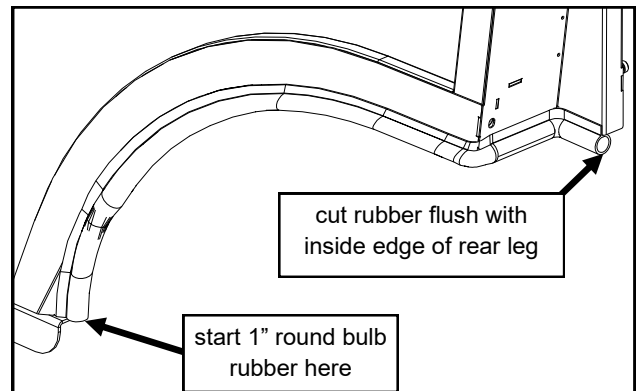
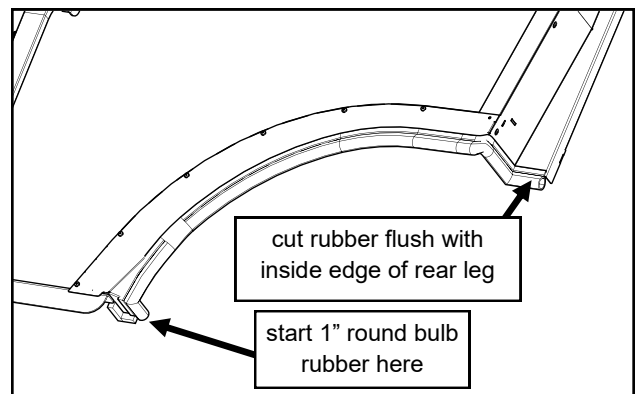

Fig. 6.2a (B2301-B2601: 1" round bulb rubber installed)
Fig. 6.2b (B2401: 1" round bulb rubber installed)
**6.2** Starting at the floorboard of the left side frame, install the 1" round rubber provided onto the side frame, continue up the sheet metal edge of the side frame and then onto the rear leg. Cut the rubber flush with the inside rear flange of the rear leg. See fig. 6.2a for B2301 or B2601; see fig. 6.2b for B2401.